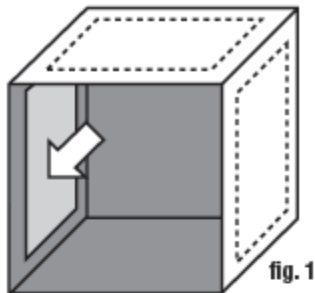

fig. 1
- Install the 3M™ Vibration Control Tape to the inside of the top and side walls of the housing (fig. 1).